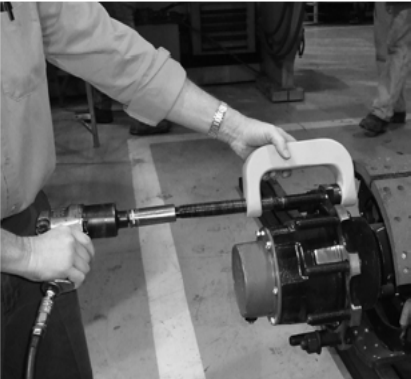

Figure 4: Extracting studs
- 1. Use a stud remover (Figure 4) to extract all marked stud(s).